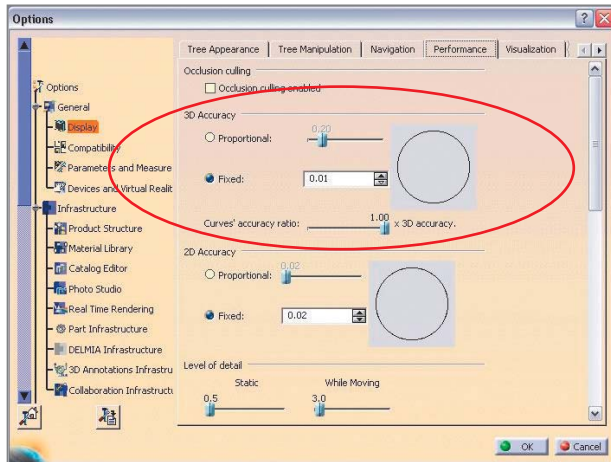

Figure 21. Setting the 3D Accuracy settings in the Options dialog box
4. Pay attention to the 3D Accuracy settings (see Figure 21).